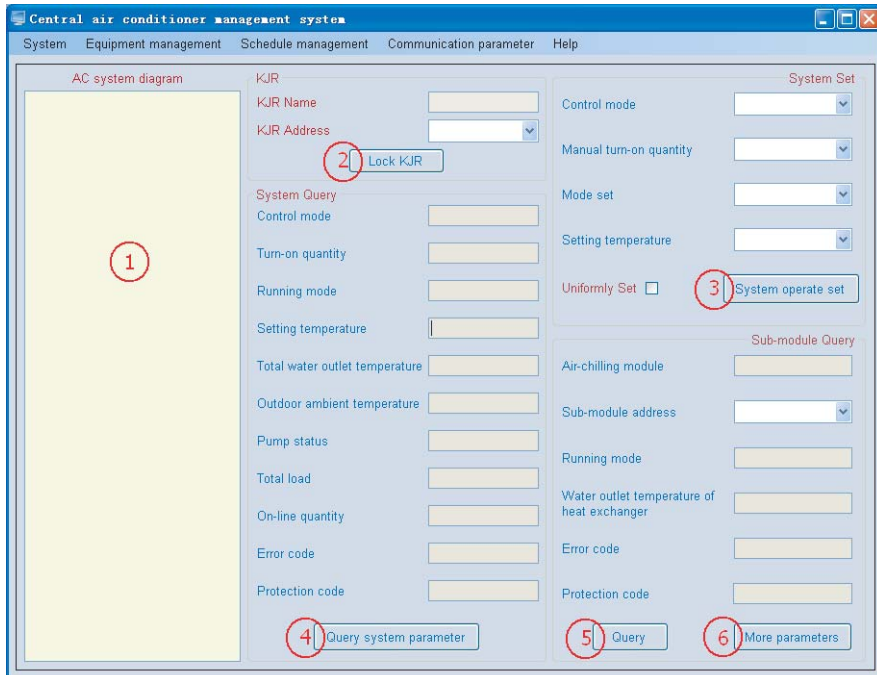

Fig. 4-12
Main interface of this software as Fig. 4-12, detail as follows:
- 2) System configuration illustration (The ① show as Fig. 4-12): Not more than 16 wire controllers could be connected to the computer. This kind of wire controller could be connected to the module group of : 30KW(P)、35KW(P)、60KW(P)、65KW(P)、130KW(P)、200KW(P)、30KW(T)、35KW(T)、60KW(T)、65KW(T)、130KW(T)、200KW(T)etc. Total 16 sub-modules could be jointed to a wire controller. (For the Maximum sub-module quantity could be jointed to a wire controller, the quantity conversion between module group and sub-module, please refer to “Remark 1 in Remark 10. of 三、Software application”)
3) "Lock KJR" (The ② show as Fig. 4-12): To lock or unlock the current selected wire controller to limit the wire controller setting the refrigeration system.
4) "System operate set" (The ③ show as Fig. 4-12): To set the operation of the selected refrigeration system.
5) "Query system parameter" (The ④ show as Fig. 4-12), Press this key to query the selected refrigeration system, the current operating parameter will be display.
6) "Query" (The ⑤ show as Fig. 4-12): Press this key to query the selected sub-module, the current operating parameter will be display.
7) "More parameters" (The ⑥ show as Fig. 4-12): More operating parameter will be display.